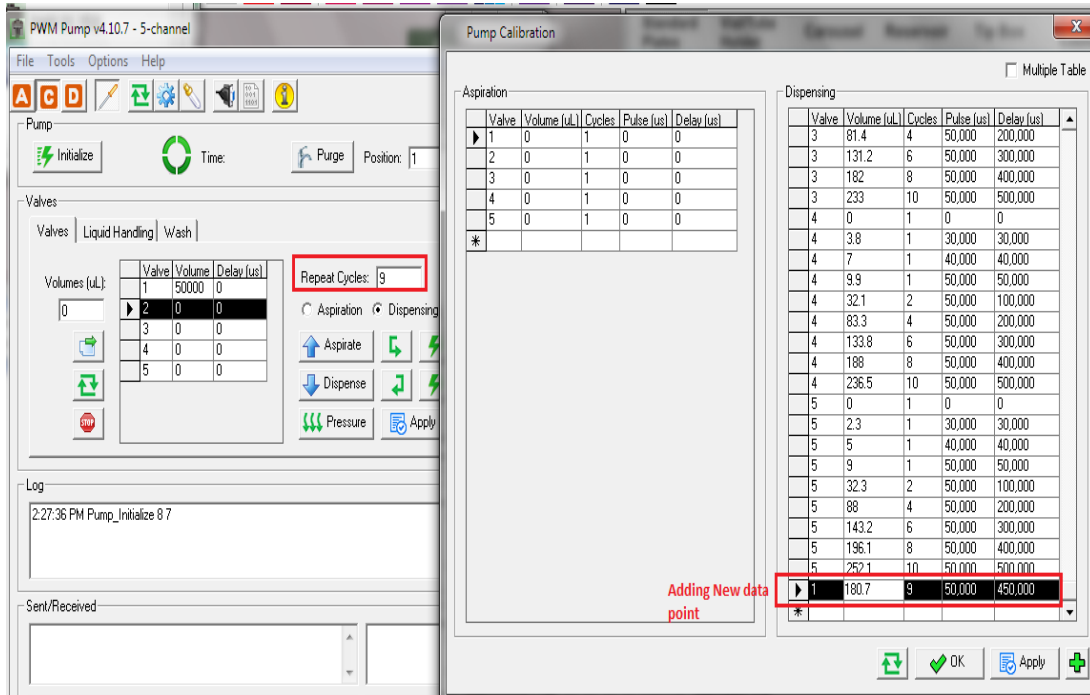

Figure 9-37 Adding new data point in the calibration table
- In case, user want to add new data point e.g. 50000 pulse & 9 cycles. Check the weight by adding new # of cycles & add the new data point as shown in *Figure 9-37 Adding new data point in the calibration table*